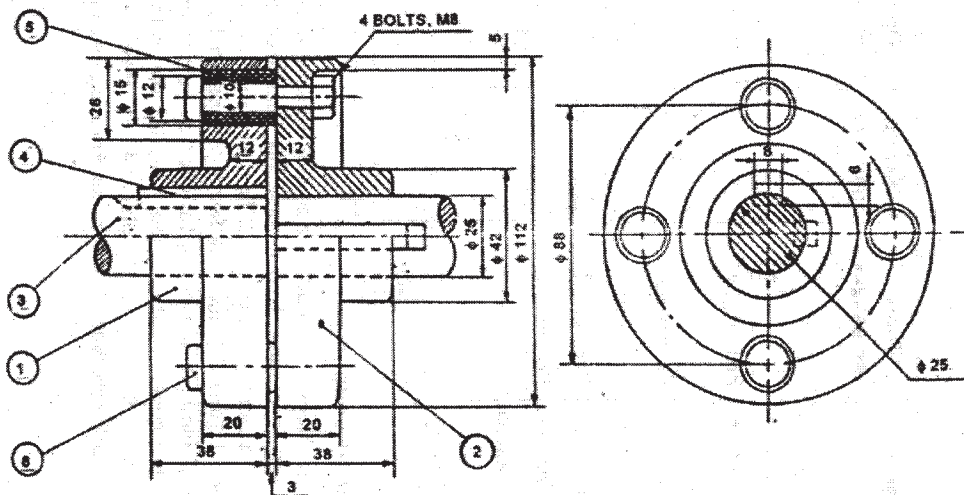

Fig. 1 : Bushed pin-type flanged coupling
(2) Choose suitable scale.
5. Study the given assembly drawing of bushed pin-type Flanged coupling shown in Fig. 1.